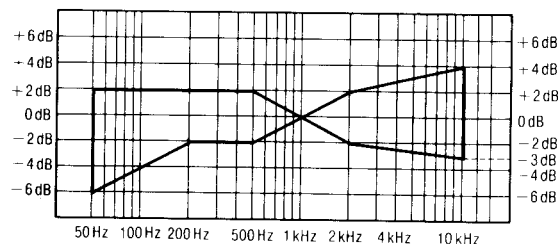
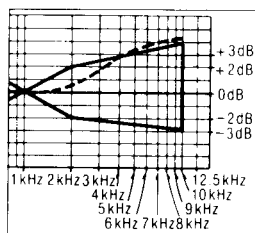
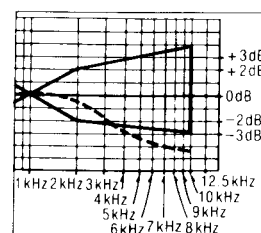

Fig. 10
Fig. 12
Fig. 13
6. Playback the signals recorded in step 5, and check if the frequency response curve is within the limits shown in the overall frequency response chart for normal tapes (fig. 10). (If the curve is within the charted specifications, proceed to steps 7 and 8.)
When the curve exceeds the overall specified frequency response chart (fig. 10) as shown in fig. 12.
- 2) Repeat steps 5 and 6 for confirmation (Proceed to steps 7 and 8) if the curve is now within the charted specifications as shown fig. 10.)
- 3) If the curve still exceeds the specifications (fig. 10), increase bias current further and repeat steps 5 and 6.
When the curve falls below the overall specified frequency response chart (fig. 10) as shown in fig. 13.
- 3) If the curve still falls below the charted specifications (fig. 10), reduce bias current further and repeat steps 5 and 6.